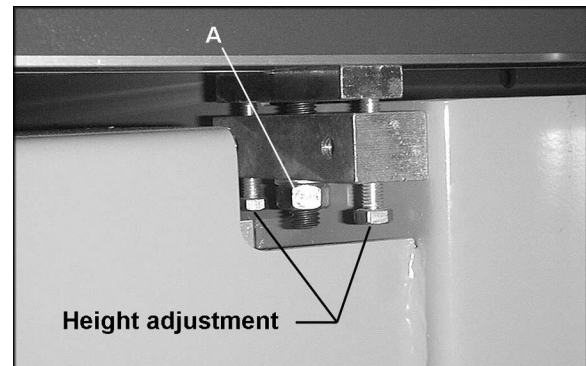

Figure 38
1. At the end you have decided to move, loosen the hex nut (A, Figure 38) holding the sliding table to the frame.
NOTE: The sliding table should be approximately 0.3 mm higher than the fixed cast iron table (thickness of a piece of paper). This is pre-set at the factory, but if adjustment should ever be needed, use the four height adjustment bolts (Figure 38) on each end of the table.